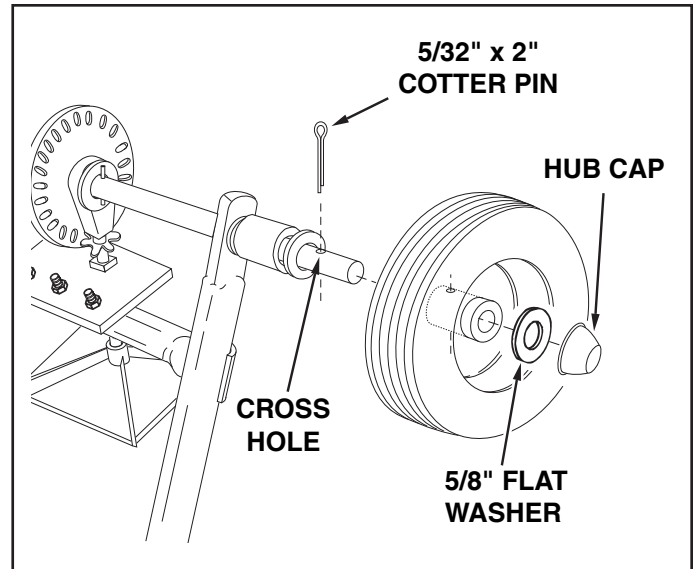

FIGURE 3
5. Place a wheel onto the end of the axle that has a cross hole. The long end of the hub goes to the inside. See figure 3.
6. Assemble a 5/32" x 2" cotter pin through the hole in the wheel hub and the axle. See figure 3.
7. Place a 5/8" flat washer onto the axle and then lightly tap a hub cap onto the axle until it is snug against the washer and wheel hub. See figure 3.
1. If the axle, slotted gear and sprocket assembly is disassembled, mark down the positions of the parts as they are removed. The drive wheel and sprocket positions in relation to the slotted gear determine which direction the spreader plate will spin. Be sure to reassemble them in their original positions. (Refer to figure 3 on page 4.) Use shim washers (Ref. no. 21 on pages 10 and 11) as needed for minimum backlash. Add grease to gear and sprocket.